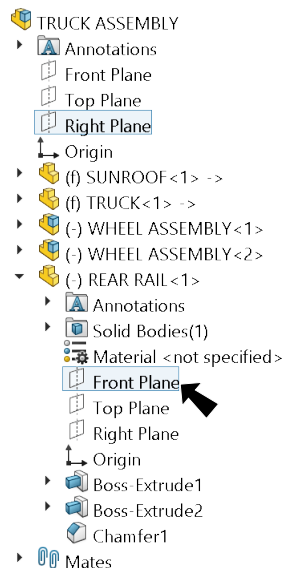

Fig. 16
Step 2. Expand the flyout Feature Manager design tree, expand **REAR RAIL** and click **FRONT Plane** , **Fig. 16**.